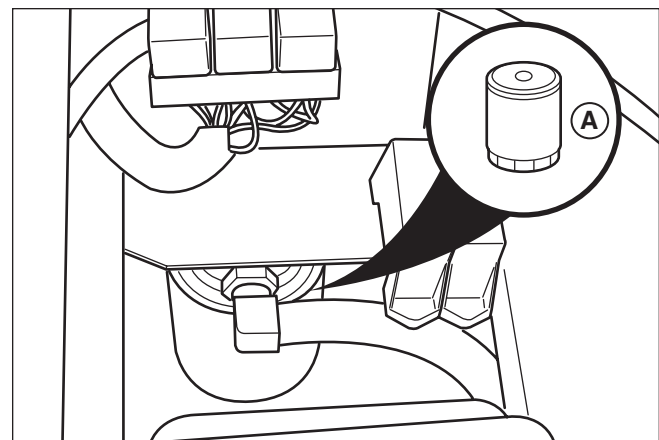

Figure 17. Hydraulic Oil Filter Location
1. Locate the hydraulic oil filter (A, Figure 17) behind the oil reservoir.